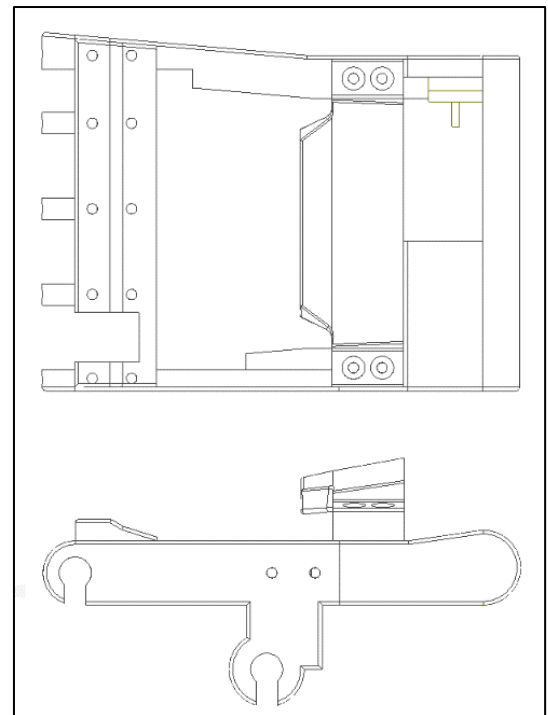

Figure 8: Views for gear sketches.
Clearly Labelled Sketches: submit a multiview sketch of your gearing mechanism **ONLY**, being sure to clearly label all gears (A, B, C, etc.). Details of the forefinger/thumb and mounting bracket should be omitted for clarity. Your multiview sketch should include the views shown in Figure 8.
- When looking at the side view in Figure 8, the center of a gear should not extend above or below the frame (it's okay if part of a gear does)
- a. Refer to Figure 8 above; gears should be represented as discs/cylinders